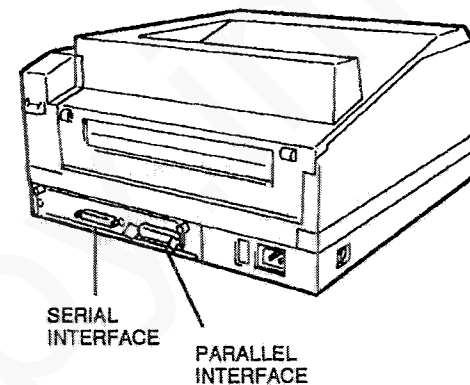

Figure 2. Interface Connectors
6. Press the ENTER ✕ button; the message "Install Adapter" will be displayed. Connect the parallel loopback adaptor (600T80136) into the parallel connector (Figure 2).